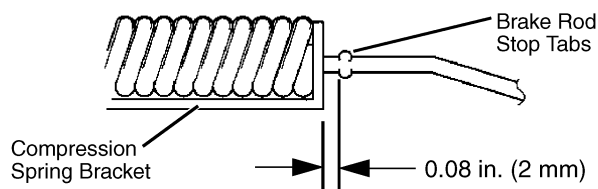

FIG. 28
- Refer to FIG. 28. Measure distance from inside of brake rod stop tabs to outside of compression spring bracket (located below foot tread area on L.H. side of transmission). Distance should be **0.08 – 0.40 in. (2 – 10 mm)**.